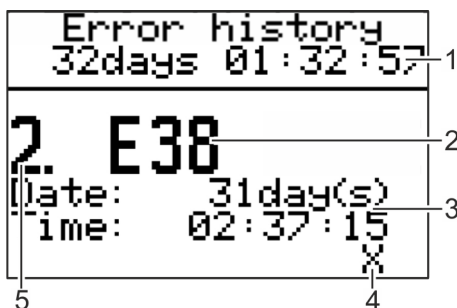

Fig. 121: 'Error history' menu
- ⇒ The 'Error history' (Fig. 121) menu is displayed.